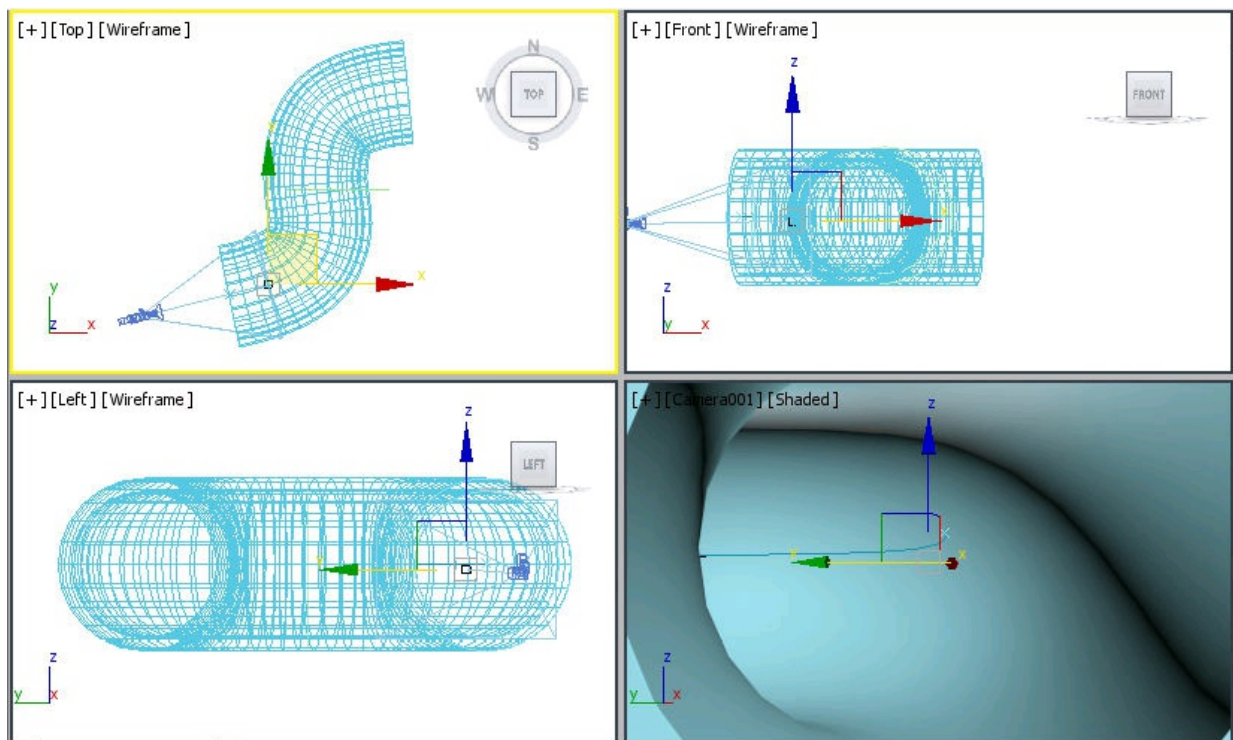

Figure 14-23 Alignment of Camera001 in viewports
2. In the Front viewport, create a target camera and align it in all the viewports using the **Select and Move** and **Select and Rotate** tools, refer to Figure 14-23. It is automatically named as *Camera001*.
3. Activate the Perspective viewport and press the C key to switch to the Camera001 viewport; the camera view is displayed, refer to Figure 14-23. Also, choose the **Shaded** option from the Shading viewport label menu of the Camera 001 viewport.